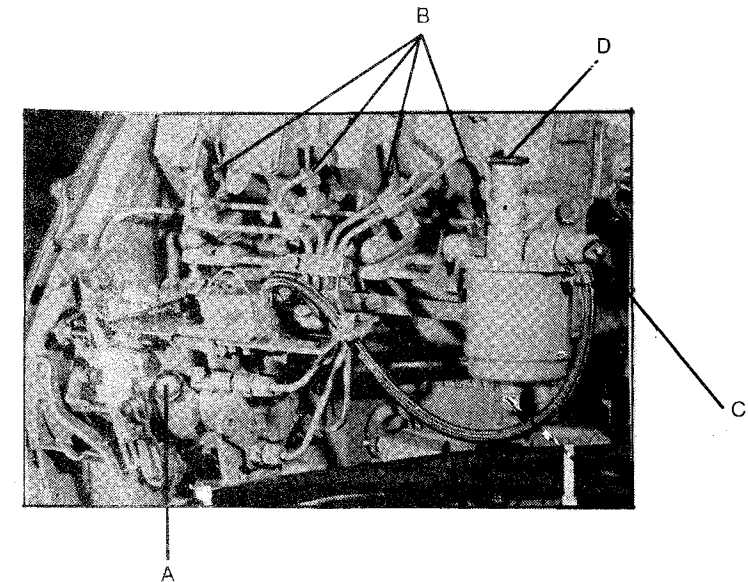

Fig. 18
f) Loosen all four injection tubes «B» and turn the starting key to «START» position. Run the engine until fuel without air bubbles comes out of all four injection tubes, then tighten the tubes again (fig. 18). When these operations have been completed, start the engine according to the instructions in section 3.3 (Starting) (page 13).